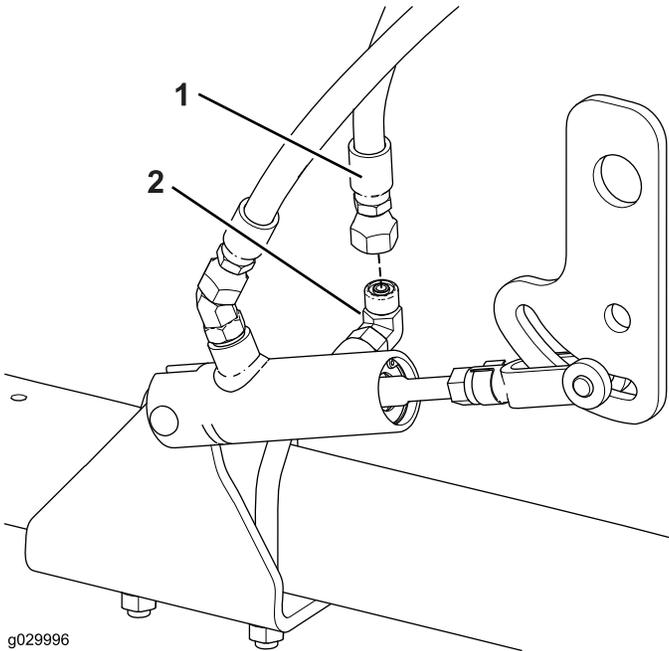

Figure 18
- 5. Connect the hose fitting (straight) on the long-hydraulic hose to the hydraulic fitting (90 degree) on the hydraulic cylinder (Figure 18).